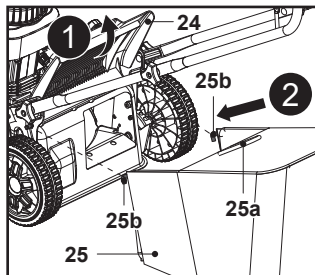

Fig. 5
3. Open the rear deflector guard (24) and hold it in position (Fig. 5, step 1).
4. Carry the grass catcher (25) by its carry handle (25a).
5. Align the two grass catcher hooks (25b) with the slots and hang the grass catcher (25) onto it (Fig. 5, step 2).
6. Carefully release the rear deflector guard (24) afterward.